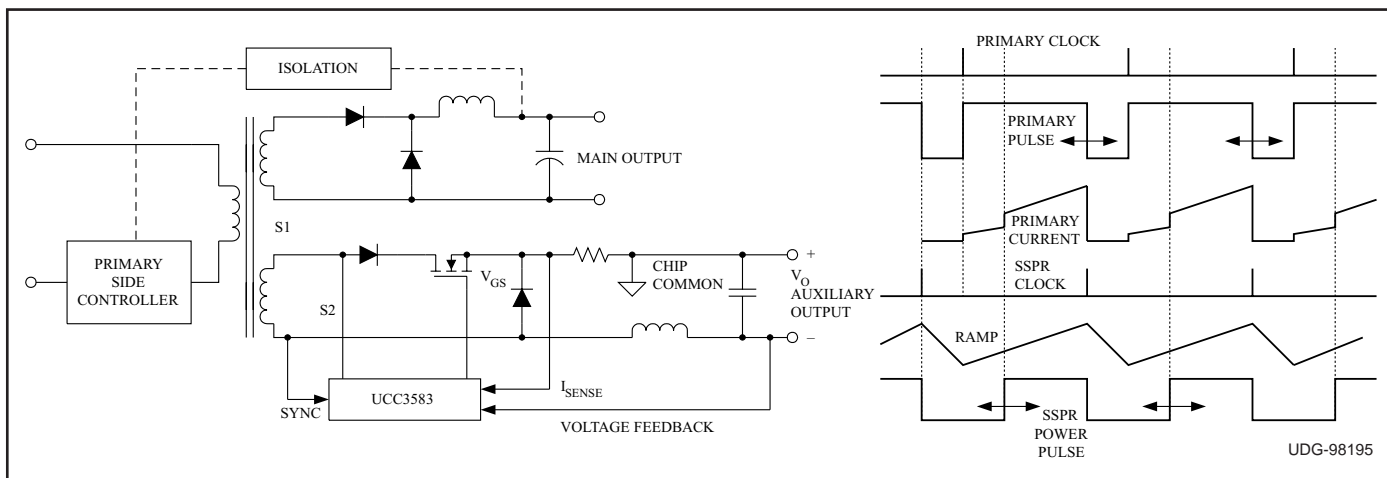

Figure 1. UCC3583 SSPR system application and typical waveforms.
**SYNC:** Synchronization input pin. It is connected to a signal representative of the secondary power pulse. One possible implementation is to use a resistive divider between terminal S2 of the secondary winding shown in Figure 1 and REF for generating the input to the SYNC pin. The synchronizing comparator is referenced to 0.5V and has  $\pm 500\text{mV}$  of hysteresis. The trip levels are approximate 1.0V and 0.0V. The designer should prevent the SYNC pin from exceeding 0.3V below ground as this will turn on the ESD diode.
and terminations easier to implement. Typical set-up and circuit waveforms of the UCC3583 system application are shown in Figure 1. Figure 2 shows waveforms for a single ended output rectifier application of the UCC3583 shown on page 1. The UCC3583 can also be used in half bridge rectifier applications as shown by the circuit and waveforms depicted in Figures 3 and 4. Referencing the IC to the positive output terminal creates a requirement for a floating bias voltage for the IC which can be referenced to the same positive voltage terminal. Possible implementations of deriving the floating bias voltage are shown in Figure 5.